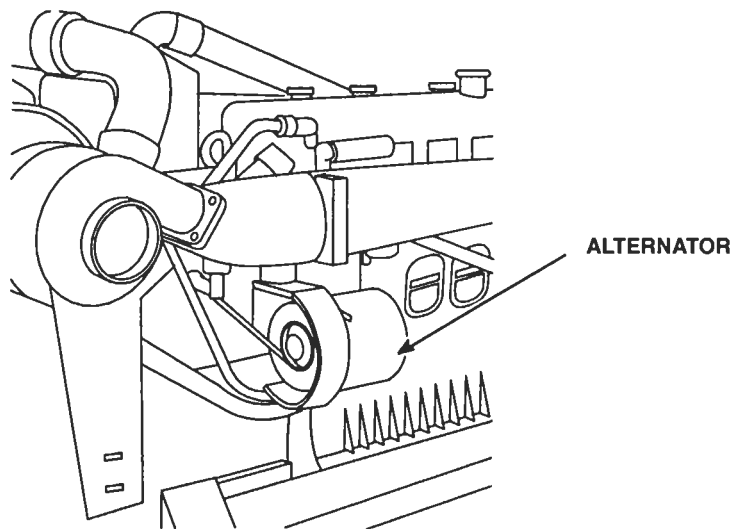

Figure 1. Inline Series 71 Alternator Mounting
The alternator typically used is a hinge-mounted, alternating current (AC), self-rectifying unit (Figure 1.)